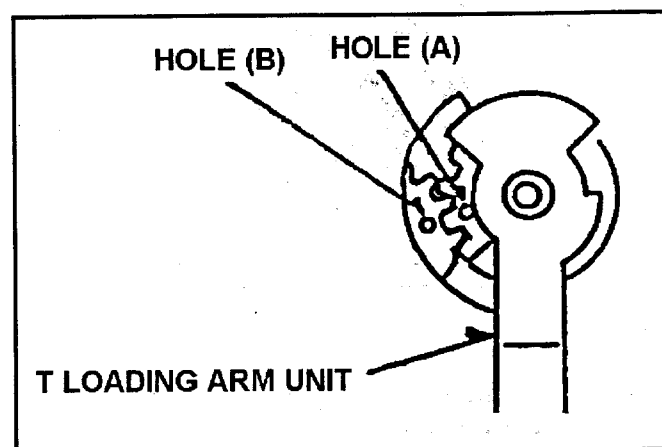

Fig. 8-12-1 Phase Adjustment of T1 Loading Arm Unit
1. When installing the T1 Boat Unit, the **hole (A)** should match **hole (B)** as shown in Figure 8-12-1.
3. Post Height Pre-adjustment (Refer to item 1-5 of section 3) and Linearity Adjustment (Refer to item 1-13 of section 3 [Tape Path Adjustment Procedure]) should be performed.